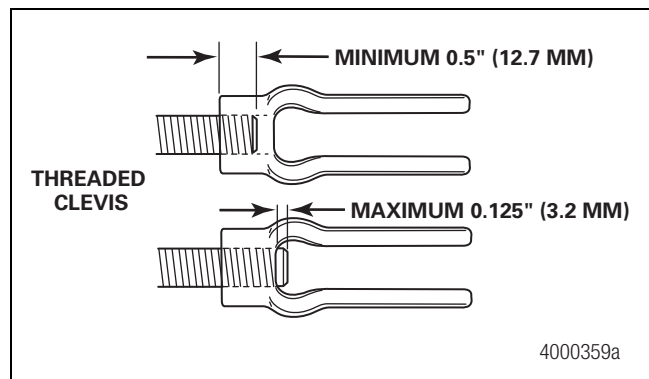

Figure 5.22
- Verify that the thread engagement between the clevis and push rod is 0.5-0.625-inch (12.7-15.9 mm). Figure 5.22.